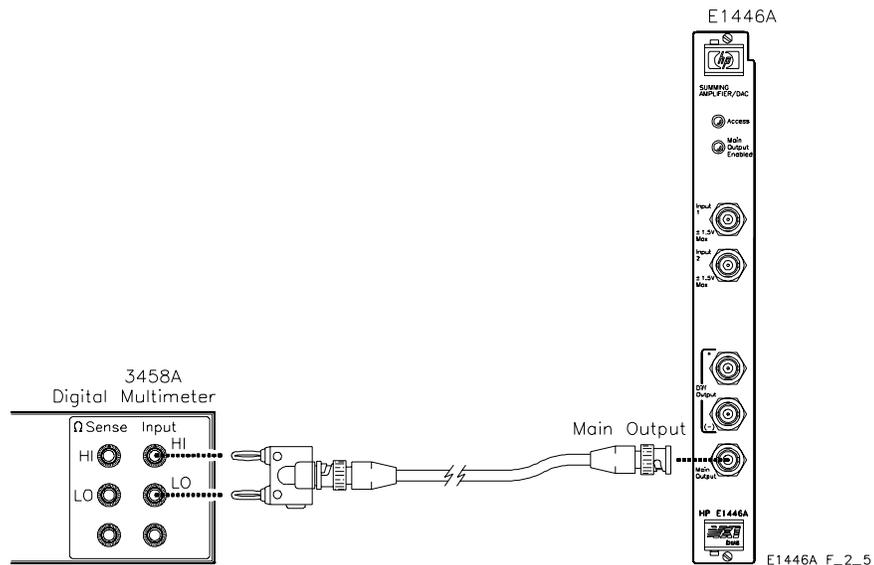

Figure 2-5. Offset DAC Test Setup
- Connect the DMM to the amplifier as shown in Figure 2-5